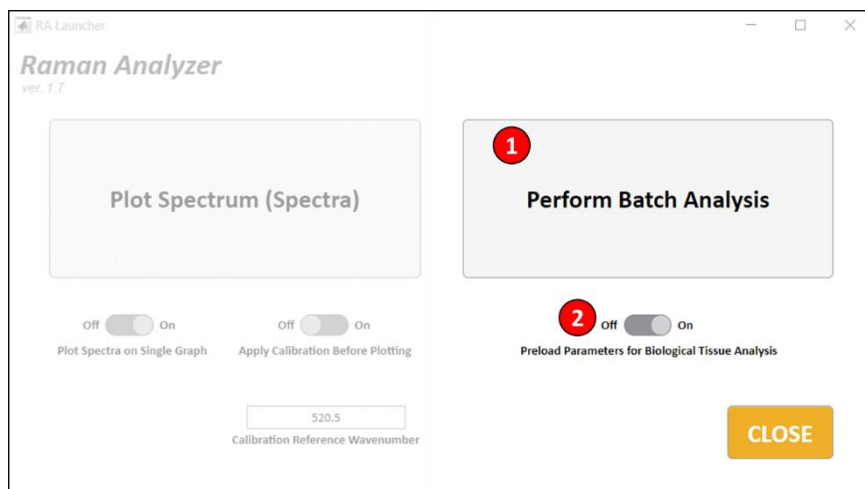

Figure 11: Controls for analyzing Raman spectra data.
- The right half of the launcher window provides controls for analyzing Raman spectra data. (Fig. 11)
- Analysis can be started by clicking the 'Perform Batch Analysis' button. ([1] in Fig. 11) The launcher window will close automatically upon clicking the button, and it will be relaunched after analysis is complete.
- The control panel will be opened automatically after the working directory is set. The default control panel is preloaded with parameters suitable for analyzing biological tissues. (Fig. 13A) A general version of the control panel without preloaded parameters (Fig. 13B) is also available by switching the 'Preload Parameters for Biological Tissue Analysis' toggle on the launcher window ([2] in Fig. 11) to the 'Off' position before starting analysis.